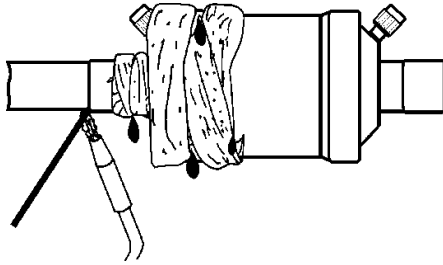

Fig. 1
- When brazing, direct flame away from filter-drier to avoid possible internal damage. Use wet rags or other suitable heat protection on filter-drier (see Fig. 1).